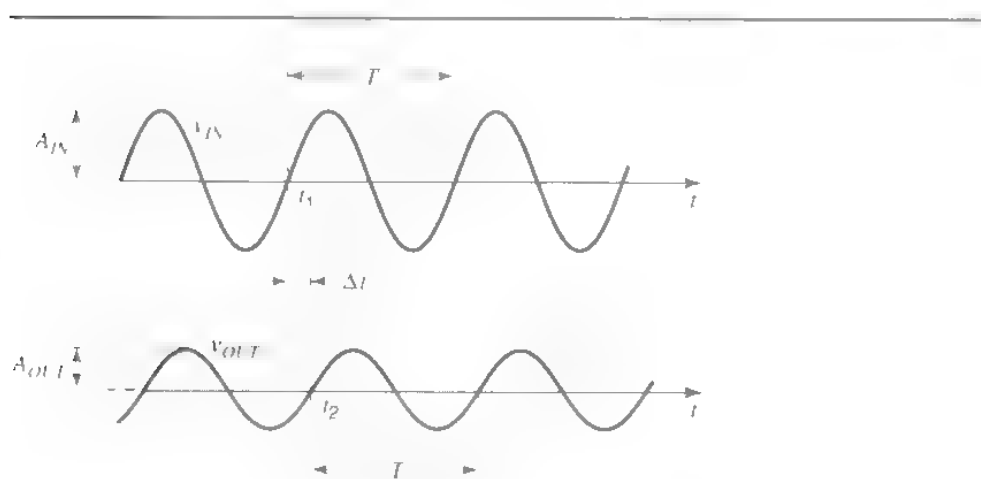

Fig. 4
Consider a linear circuit and assume that, at a given frequency, the input and output signals are as shown in Fig. 4. The amplitude of the input is A_{IN} , and that of the output is A_{OUT} . To indicate to what extent the input signal has passed to the output, we define the voltage gain magnitude, G :
In Fig. 1, because the RC circuit shows some “inertia” (it takes time for the capacitor to charge or discharge before the output can rise or fall significantly), the various features of the sinusoidal output waveform (peaks, valleys, and zero crossings) appear to occur somewhat later than the corresponding features of the input waveform. We say that the output signal is *phase-shifted* with respect to the input signal. The phase difference between the output and the input can be determined with the help of Fig. 4. With the period T corresponding to 360 degrees, the phase difference between the two waveforms will be $[(\Delta t)/T] \times 360$ degrees, where $\Delta t = t_2 - t_1$, as shown in the figure. This is the phase by which the top waveform leads (is ahead of) the bottom one or, identically, the phase by which the bottom waveform lags (is behind) the top one. It is common to quote instead the phase by which the bottom waveform *leads* the top one; this is the *negative* of the above quantity and will be denoted by ϕ . Thus,
1. Connect the circuit of Fig. 1, using $R = 16 \text{ k}\Omega$ and $C = 10 \text{ nF}$. Set the input frequency at 1 kHz and its amplitude (peak value) at 2V. Monitor the input waveform on the scope's channel 1 and the output waveform on channel 2, with both channel inputs set at AC. Use $\times 1$ probes. The sensitivity of the two channels (V/div) should be the same, and the variable sensitivity control for each should be in the calibrated position. The trigger source selector should be at channel 1, the trigger coupling at AC, and the trigger slope at positive. You should be able to obtain a display like that in Fig. 4. Carefully establish the 0 level for each waveform by using the ground setting for each scope input, and align this level with a main graticule horizontal line, using the vertical position control.
6. The phase shift between the output and the input, ϕ , was defined under Background above. Measure this quantity, with the input frequency equal to the cutoff frequency f_c that you determined in step 3. To make this measurement easier, move one of the two waveforms vertically, so that its 0 level coincides with the 0 level of the other waveform (use the ground input mode on the scope to establish the 0 levels accurately). Then Δt can be easily estimated as the horizontal displacement between two zero crossings, as shown in Fig. 4.³ Is the phase shift at f_c approximately equal to the theoretically predicted value of -45 degrees?